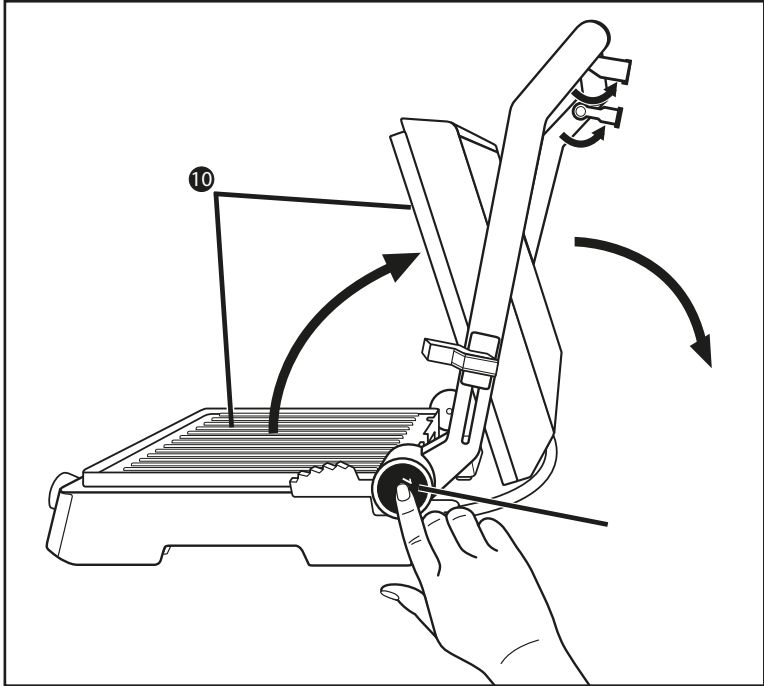

Fig. 1
- 1) Fold out both support feet ❶ (Fig. 1).
- 2) Press the unlocking button ❸ 180° ❹ (Fig. 1) and open the appliance lid until both hotplates ❷ can be used as a table grill.